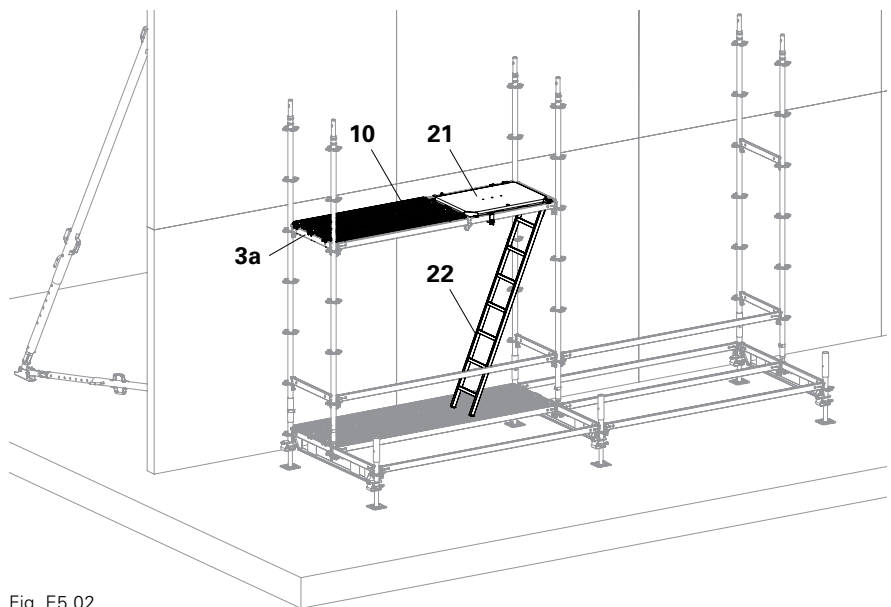

Fig. E5.02
5. Attach Ladder UAF (22). (Fig. E5.02)